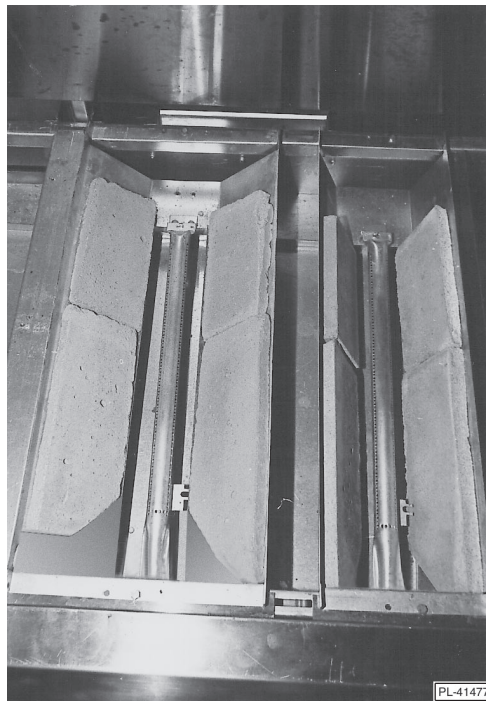

Fig. 4
NOTE: If a brick has been broken into two pieces, it can still be used. Just place the pieces into position as shown in Fig. 4. However, if a brick is broken into more than two pieces, it will need to be replaced. Contact your local Vulcan servicer.
- a. Two 10" x 4" (254 x 101.6 mm) bricks, placing the miter edge, one to each side of the front burner baffle area (Fig. 4).
- b. Two 7" x 4" (177.8 x 101.6 mm) bricks, one to each side of the rear burner baffle area (Fig. 4).
- a. Two 10" x 4" (254 x 101.6 mm) bricks, placing the miter edge, one to each side of the front burner baffle area (see Fig. 4).
- b. Two 7" x 4" (177.8 x 101.6 mm) bricks, one to each side of the rear burner baffle area (see Fig. 4).
3. Install two 10" x 4" (254 x 101.6 mm) composite/mortar bricks, placing the miter edge, one to each side of the front burner baffle area (see Fig. 4).
4. Install two 7" x 4" (177.8 x 101.6 mm) bricks, one to each side of rear burner baffle area (see Fig. 4).